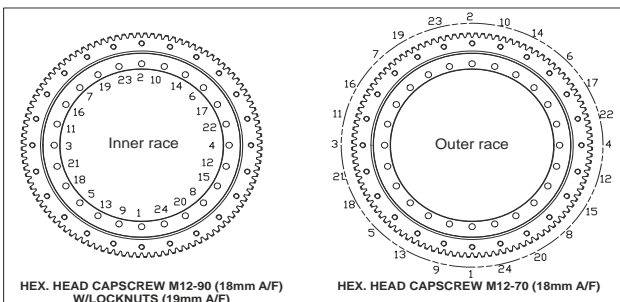

Figure 5-2. Torque Sequence Diagram
- Following the torque sequence diagram (Refer to Figure 5-2.) tighten the bolts to an initial torque of 80 N.m (59 ft.lbs). Then following the same sequence, tighten to a final torque of 117 N.m (86 ft.lbs).